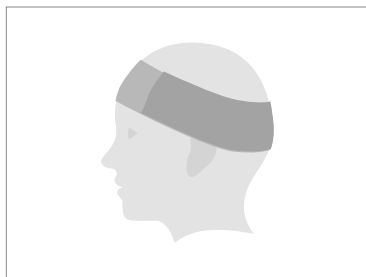

Figure 1: Head bangle to support fixation of the implant
- A supportive head bandage must be placed over the implant before entering the scanner room. This may be an elastic bandage wrapped tightly around the head at least three times (refer to Figure 1). The bandage needs to fit tightly but should not cause pain.